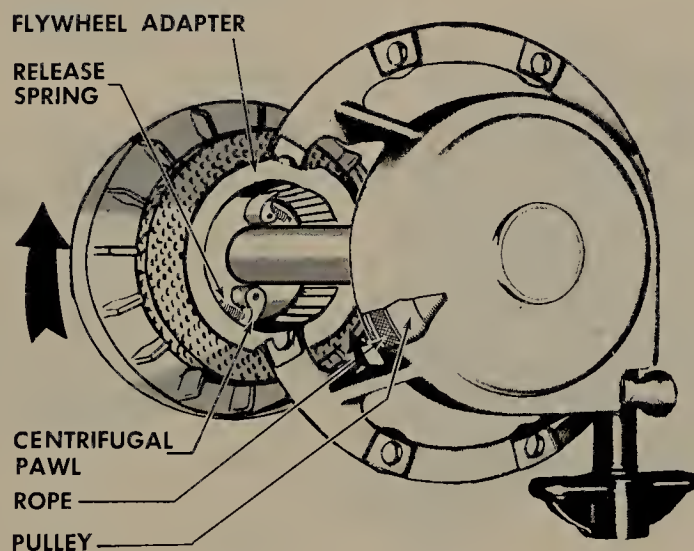

FIGURE 12.15 Rope-rewind drive mechanism using centrifugally actuated pawls.
3. Drive Mechanism Service. All rope-rewind starters are similar in construction, the main difference being in the ratchet mechanism that causes the pulley to engage the crankshaft for cranking, and then releases when the engine starts. There are four general types, as shown in Figs. 12.15 to 12.18. Study these four illustrations to see how the four types work.